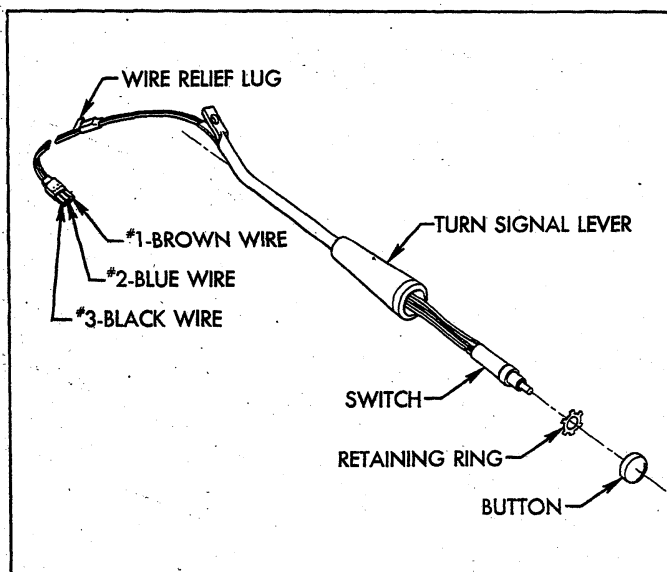

Fig. 2 - Cruise Master Engagement Switch
1. Pry the engagement button out of the turn signal knob with a small thin bladed screwdriver (Figure 2).